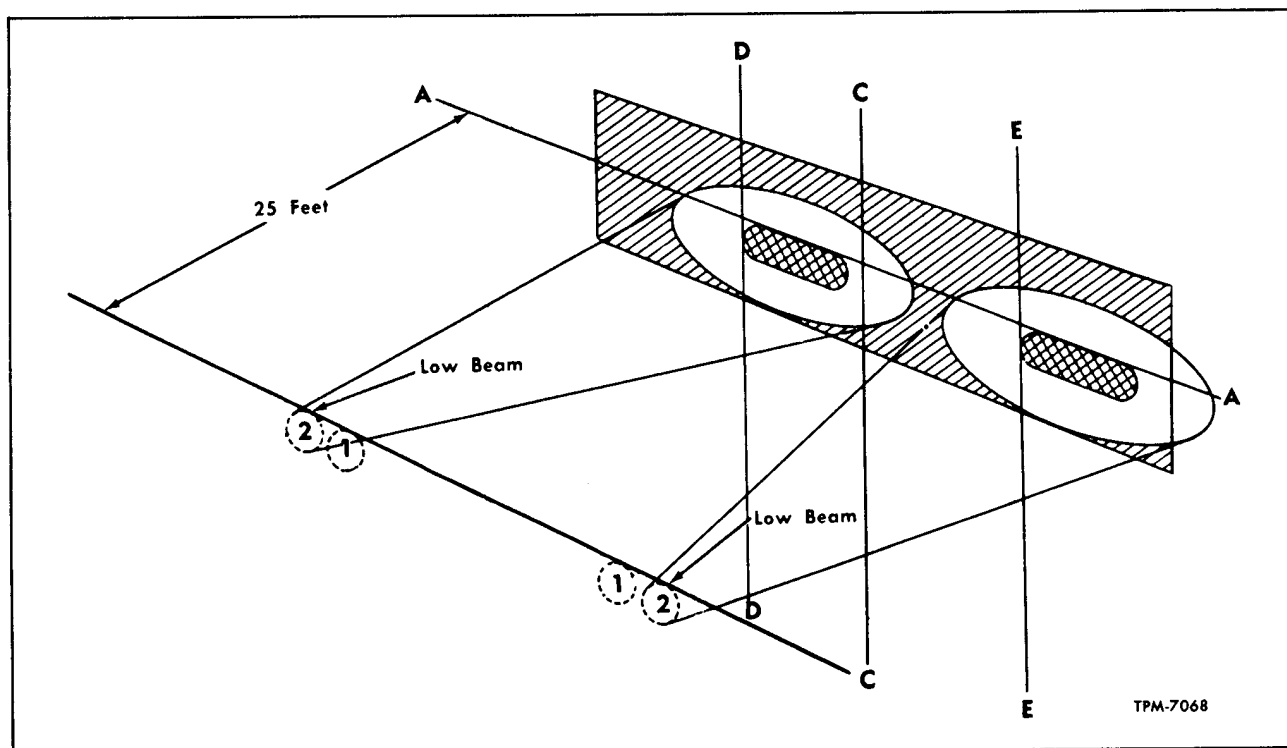

Figure 4—Outer Light (Low Beam) Aiming Chart
8. Remove paper or panel from vertical surface to permit drawing aiming lines for outer lights. NOTE: Lines A-A and C-C in figure 2 are in same location for figure 4 and can be located on vertical surface in same place by taking measurements from the removed paper or panel.
Outer (Low Beam) Lights (Fig. 4)